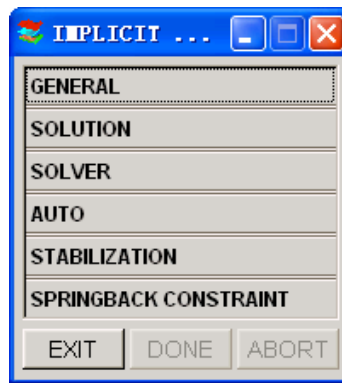

Figure 8.3.2 The Implicit Parameters dialog window.
- Defines parameters for springback analysis. The dialog window is shown in Figure 8.3.2. For detailed information about each parameter, refer to LS-DYNA User's Manual.
The user needs to define appropriate constraints on the blank to eliminate the six rigid body motions. This is done by using the SPRINGBACK CONSTRAINT option in the IMPLICIT PARAMETER dialog window (Figure 8.3.2). eta/DYNAFORM will prompt the user to select the constrained nodes.